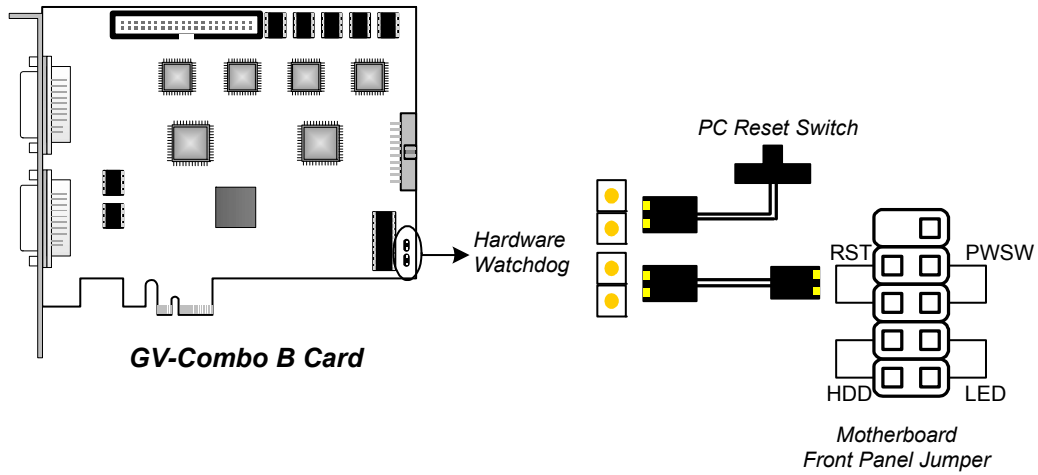

Figure 1-36
- Connect the supplied Hardware Watchdog Jump Wire (Figure 1-36).
- **Hardware Watchdog Connection:** Connect the supplied Hardware Watchdog Jump Wire to the Master Card only (Figure 1-36).